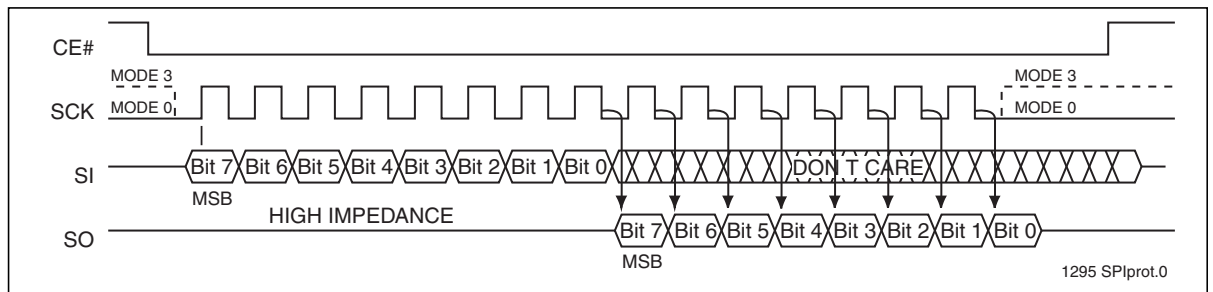

Figure 3: SPI Protocol
The SST25VF040B supports both Mode 0 (0,0) and Mode 3 (1,1) of SPI bus operations. The difference between the two modes, as shown in Figure 3, is the state of the SCK signal when the bus master is in Stand-by mode and no data is being transferred. The SCK signal is low for Mode 0 and SCK signal is high for Mode 3. For both modes, the Serial Data In (SI) is sampled at the rising edge of the SCK clock signal and the Serial Data Output (SO) is driven after the falling edge of the SCK clock signal.